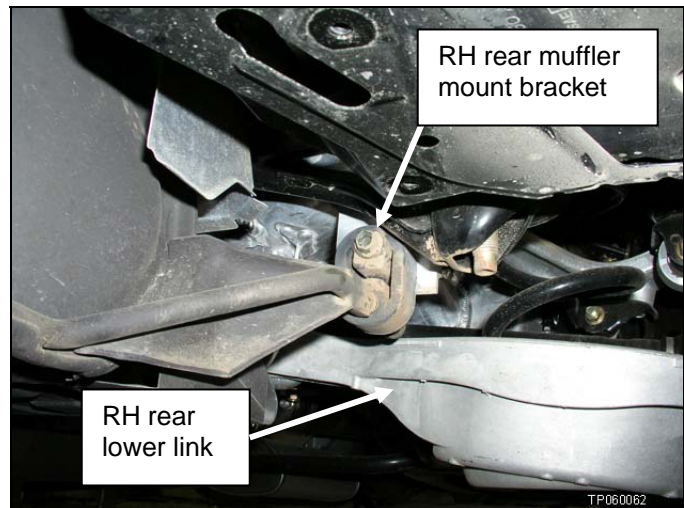

Figure 10
13. Remove the bolt that holds the passenger (RH) side rear muffler mount bracket (see Figure 10).